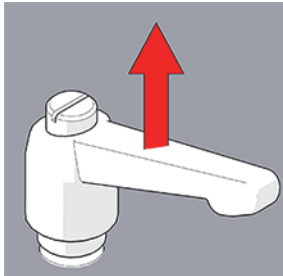

Figure 3-45 Pull ratchet handle
1. Pull the ratchet lever away from the base to which it is connected (see Figure 3-45 on page 66).